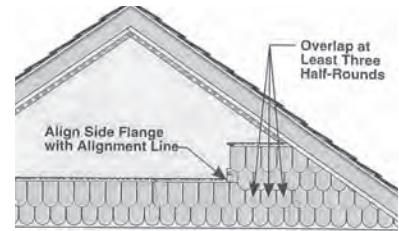

Fig.28
- b. Measure from the Left Side Flange making sure to stagger the laps by at least 3 round-cuts (Figure 28).
- c. Align Left Side Flange with nearest Alignment Line of course below (Figure 28).